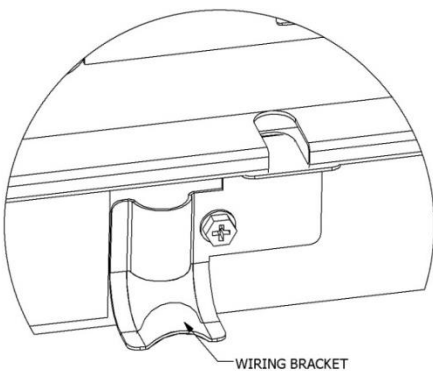

FIG. 2 - FAN WITHOUT LIGHT
3. If fan is not equipped with a lighted grille this bracket is to be installed as seen in Figure 2. Ensure that the bracket covers the notch in the frame. Prior to the gypsum ceiling being placed, install the fan supports (G) 11-3/4" on center at the location of the damper and fan assembly. The supports consist of two pieces of 2x4's; one piece is to be cut to the truss/joist height, the second is to be cut per the following equation.